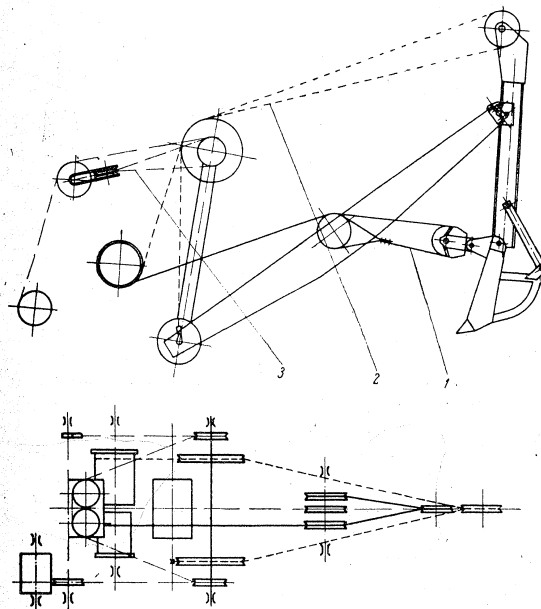

Fig. 8. Cable Reeving for Backhoe Operation:
**Reeving of drag cable (Fig. 8)**
**Reeving of hoist cable (see Fig. 8)**
**Reeving of boom-hoist cable (see Fig. 8)**